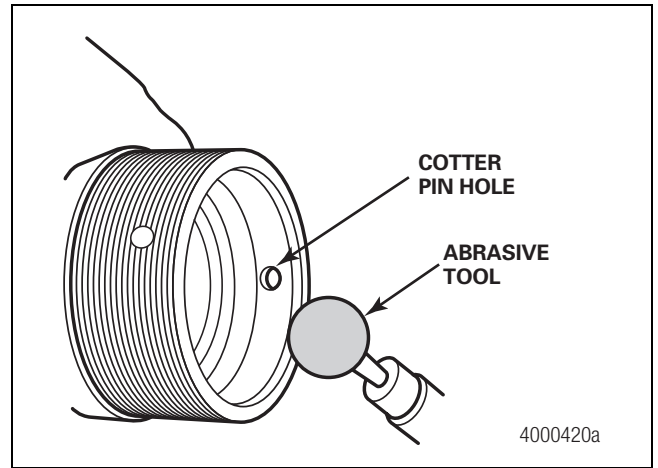

Figure 7
- If the axle spindle is equipped with cotter pin holes: Use a round abrasive tool to remove all metal burrs and sharp edges from the spindle bore side of the cotter pin holes. Figure 7.